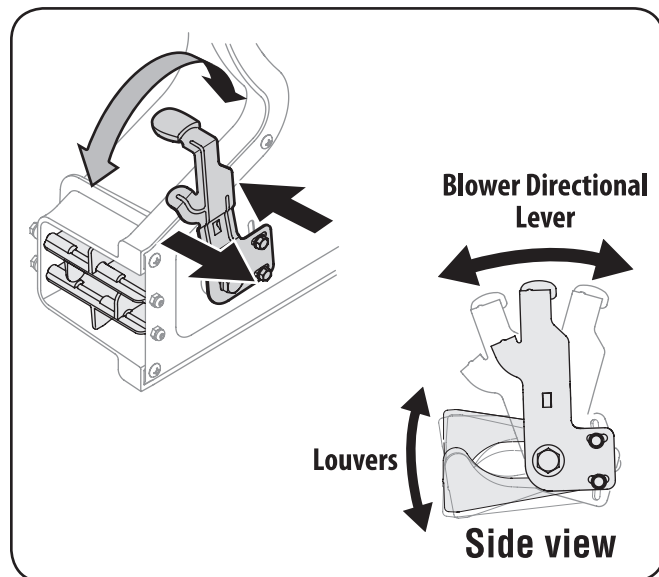

Figure 4-3
1. Pull the lever out and away from the blower. See Figure 4-3.
2. Move the lever to direct the airflow upward and downward. See Figure 4-3.